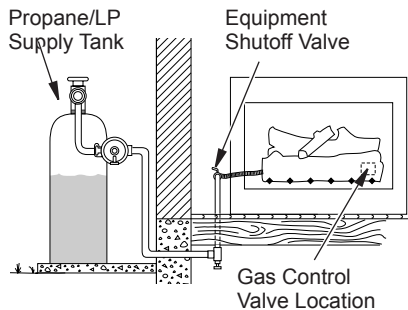

Figure 16 - Checking Gas Joints (Propane/LP Model Shown)
3. Check all joints from gas meter to equipment shutoff valve for natural gas or propane/LP supply to equipment shutoff valve for propane/LP (see Figures 16 and 17). Apply noncorrosive leak detection fluid to all joints. Bubbles forming show a leak.
4. Check all joints from equipment shutoff valve to gas control (see Figures 16 and 17). Apply noncorrosive leak detection fluid to all joints. Bubbles forming show a leak.